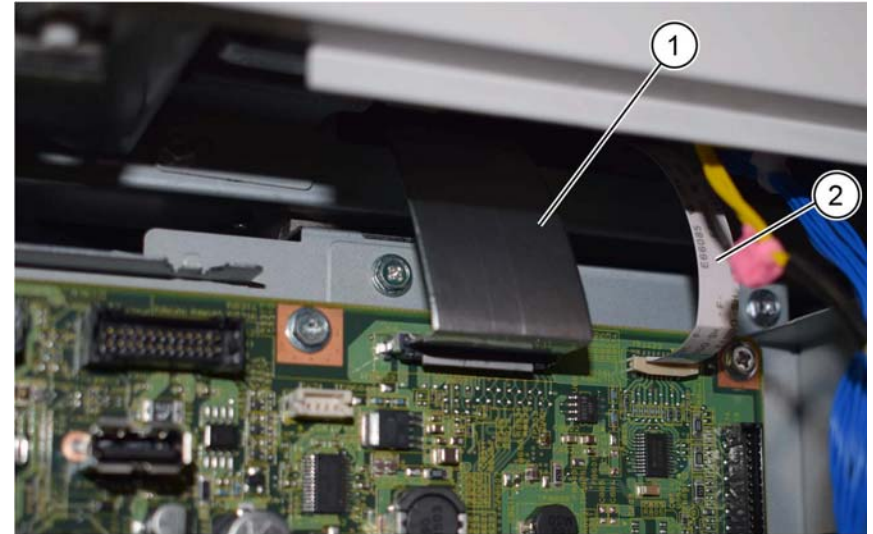

Figure 10 Cables
13. **(C7030F only)**. Carefully disconnect the CCD ribbon cable (1) and the FFC LED cable (2), **Figure 10**.